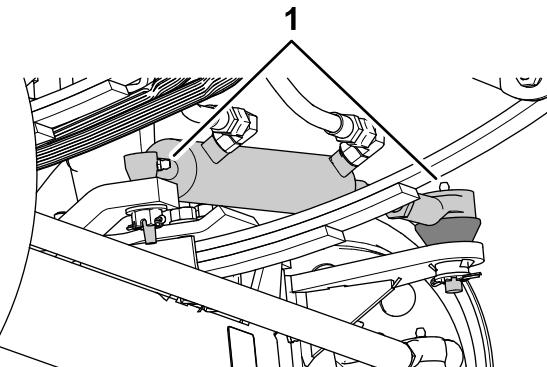
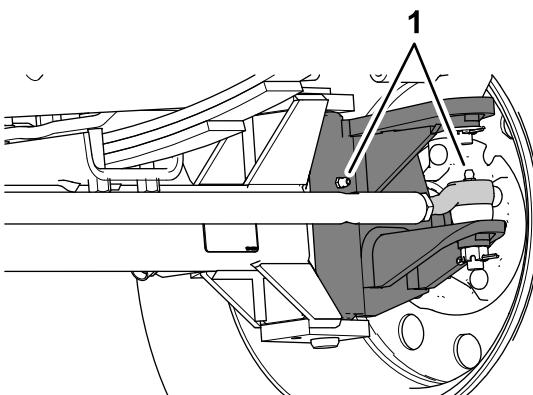

Figure 71
Figure 72
1. Wipe the grease fittings clean (Figure 71 and Figure 72).
2. Pump grease into the grease fittings (Figure 71 and Figure 72).
**Note:** The grease fittings positions are illustrated in Figure 71.